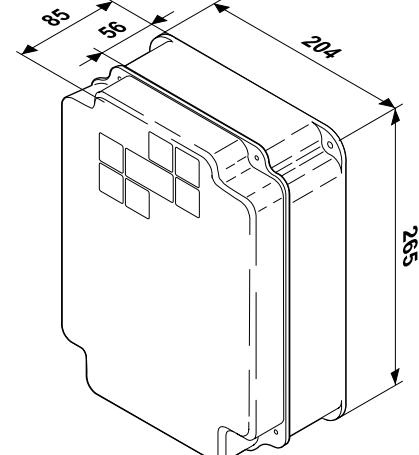

Fig. 10
14) Install the control unit box according to the dimensions shown in fig.10.